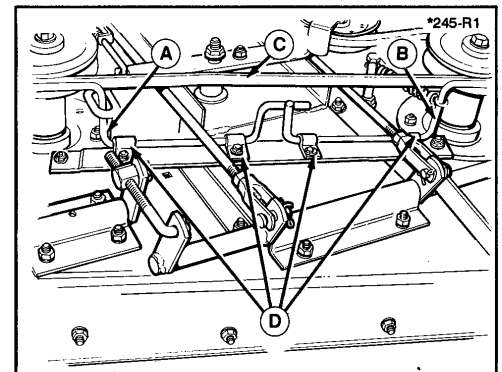

Figure 48.
Inspect the mower deck with the mower attached and PTO rod released. The blade brake rods (A & B, figure 48) should firmly contact the belt (C) at the rear of the right and left arbor pulleys. There should be a slight clearance between the two brake rods